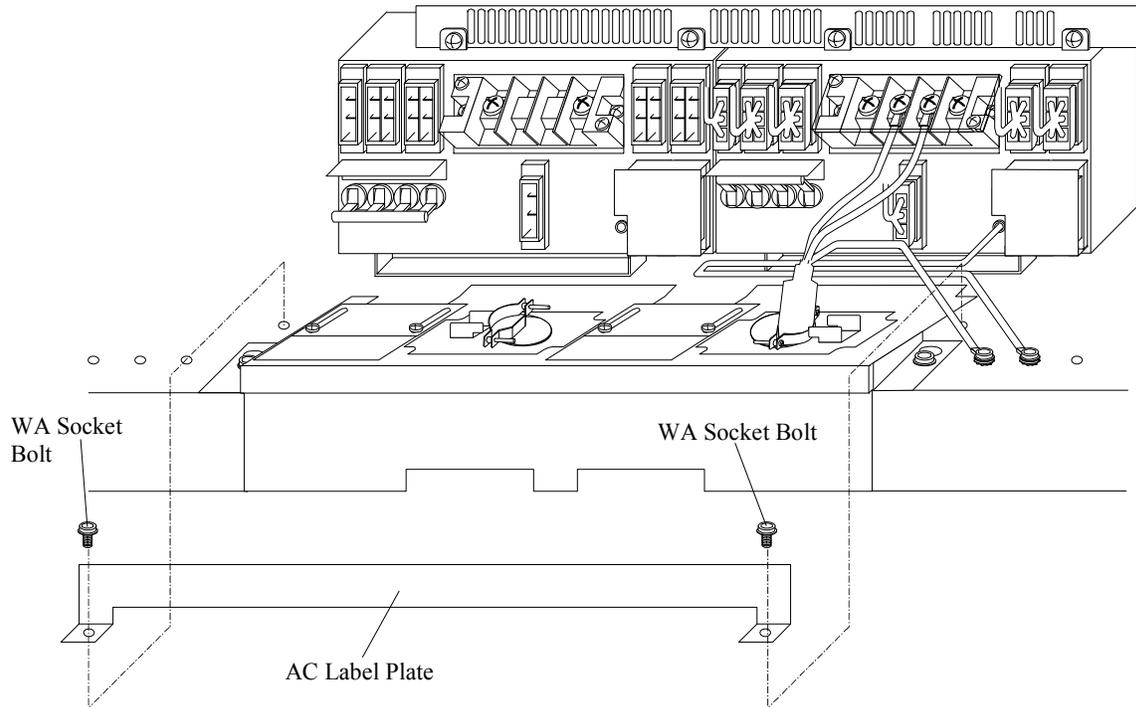

Fig. T20.1-3A Removal of AC Label Plate
- d. Attach the AC label plate and fasten the two WA socket bolts. (Refer to Fig. T20.1-3A.)